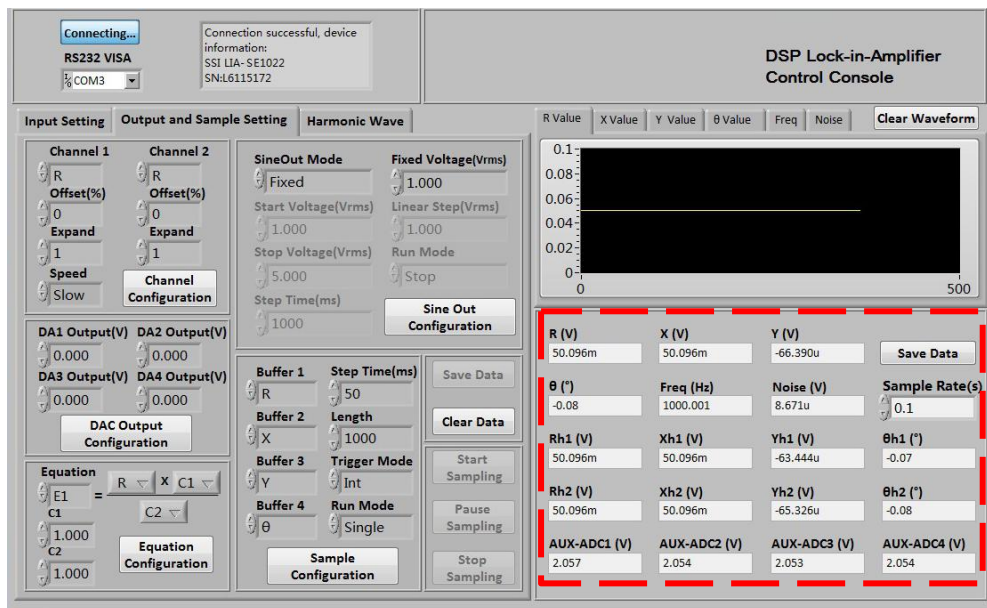

Fig.72 The Configuration Area of Data Storage
2. When the software is executing, click the button **Save Data** in the red box in Fig.72. After clicking this button and it displays **Saving...**. The software is saving the current collected data.